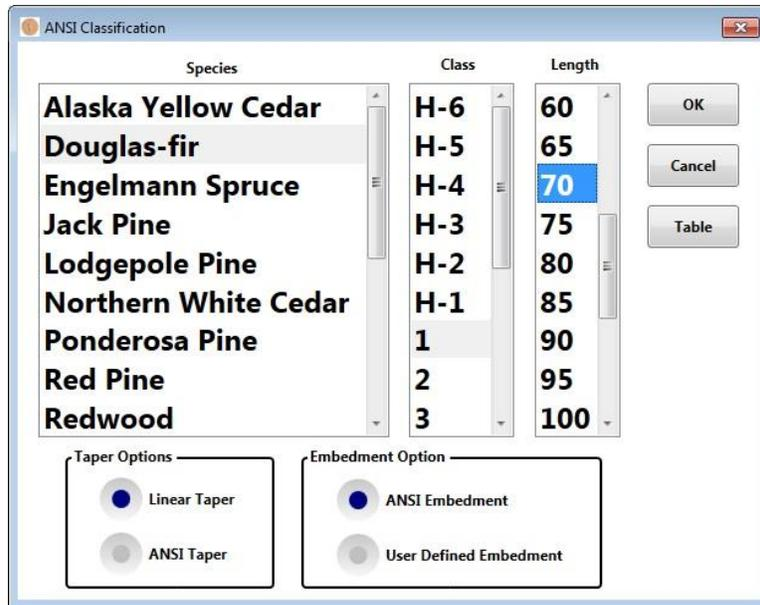

Figure 2-9. ANSI Classification for Example 2
1. Click on the **ANSI** button to enter the ANSI specifications for the pole. The ANSI Classification dialog (Figure 2-9) appears. Enter Species (**Douglas-fir**), Class (**1**), and Length (**70**). Then click **OK** to return to the main screen.